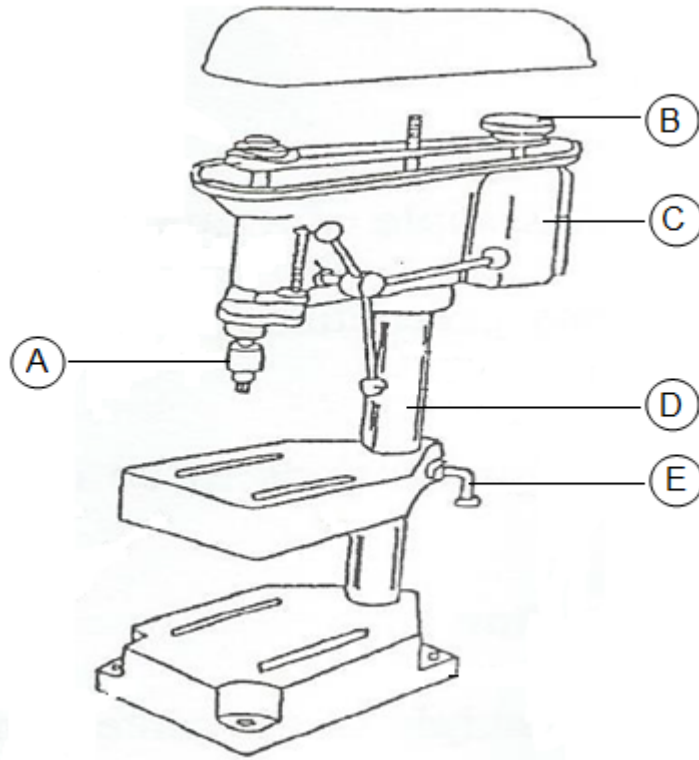

FIGURE 1
- 1.1 FIGURE 1, ADDENDUM A (attached), shows a pedestal drilling machine. Label the components (A–E), as indicated on the drawing, in the ANSWER BOOK. (5)